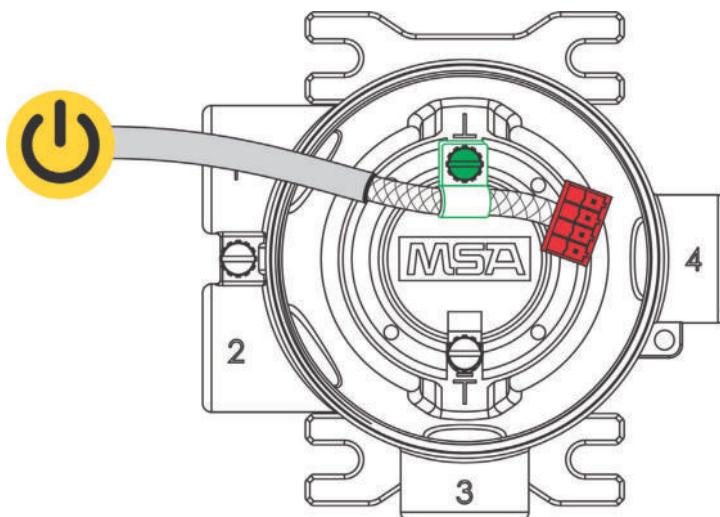

Fig. 20 Connecting Power and Grounding Cable
Using shielded cable is recommended. The cable shield should be terminated internal to the instrument enclosure using the crimp terminal provided (see Fig. 20).
- (7) Tighten screws on connector and tug gently on wires to ensure they are secure.
(8) Connect shield of cable to base of instrument housing (see Fig. 20).